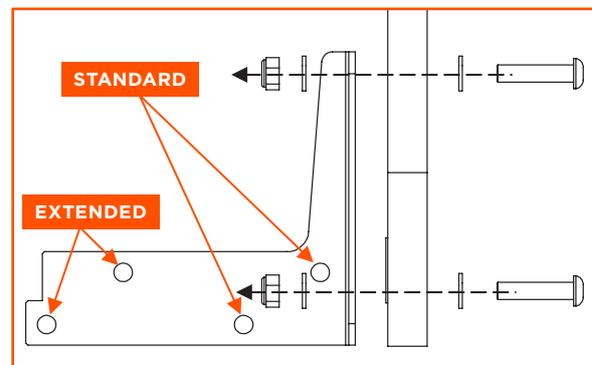

Figure 8.5
- Fix the brackets to the footboard using the M8 x 35 bolts, nuts, and washers provided as shown in Figure 8.5. Tighten using the 5mm Allen key and a 13mm spanner.
- For the bed at the standard length for a 200cm mattress, use the bolt holes marked 'Standard' in Figure 8.5. For the bed at the extended length for a 220cm mattress, use the bolt holes marked 'Extended' in Figure 8.5.